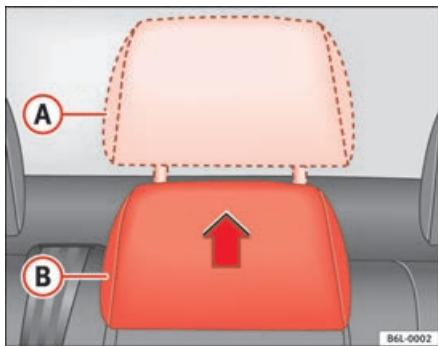

Fig. 5 Adjusting central rear head restraint
- Raised position or position for use **A** ⇒ **fig. 5**. In this position, the head restraint is used normally, protecting the occupant of the rear central seat, along with the rear seat belts.
- Rest position **B** ⇒ **fig. 5**. This position improves the driver's rear visibility.